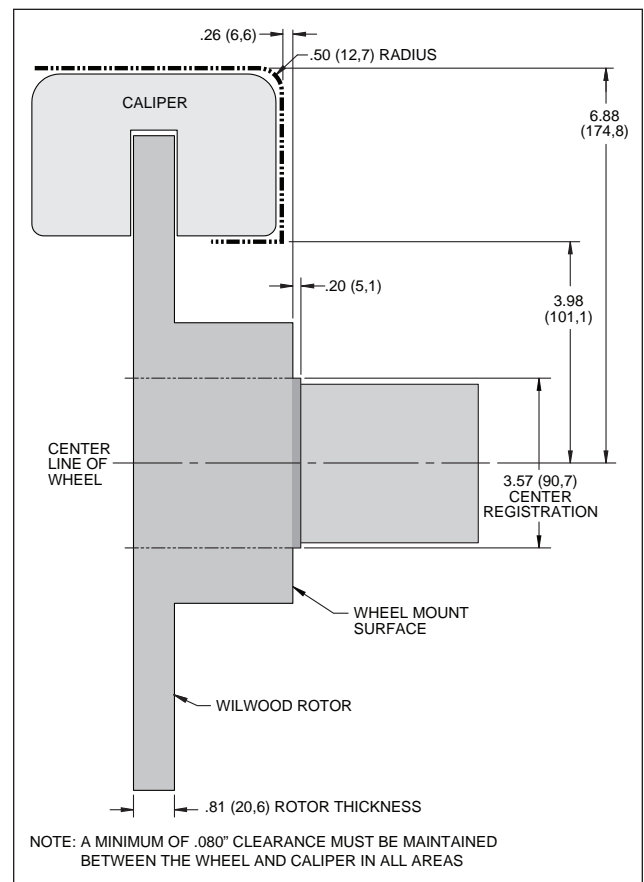

Figure 2. Wheel Clearance Diagram
- Review the Wheel Clearance Diagram (Figure 2, page 3) to verify that there is adequate clearance with the wheels you will be using with the installation.
- Verify your wheel clearance using Figure 2.
- **CAUTION:** Wheel fitment to OEM hub interference must be checked. There is a 3.57" diameter step on the hub face that was used to register the old brake drum (Figure 2). Be sure your wheel fits flush against the hub face. If the step interferes, you will need to use a wheel spacer (customer supplied) to clear the step.
- Temporarily install the wheel and torque the lug nuts to the manufacturer's specification. Ensure that the wheel rotates freely without any interference. **CAUTION:** Wheel fitment to OEM hub interference must be checked. There is a 3.57" diameter step on the hub face that was used to register the old brake drum (Figure 2). Be sure your wheel fits flush against the hub face. If the step interferes, you will need to use a wheel spacer (customer supplied) to clear the step.
• **NOTE:** OEM rubber brake hoses generally cannot be adapted to Wilwood calipers. The caliper inlet fitting is a 1/8-27 NPT. Install Wilwood's stainless steel braided flexline hose kit (13), P/N 220-13319 included with this kit, Photo 9. **Carefully route hoses to prevent contact with moving suspension, brake or wheel components.** **NOTE:** Wilwood hose kits are designed for use in many different vehicle applications and it is the installer's responsibility to properly route and ensure adequate clearance and retention for brake hose components.